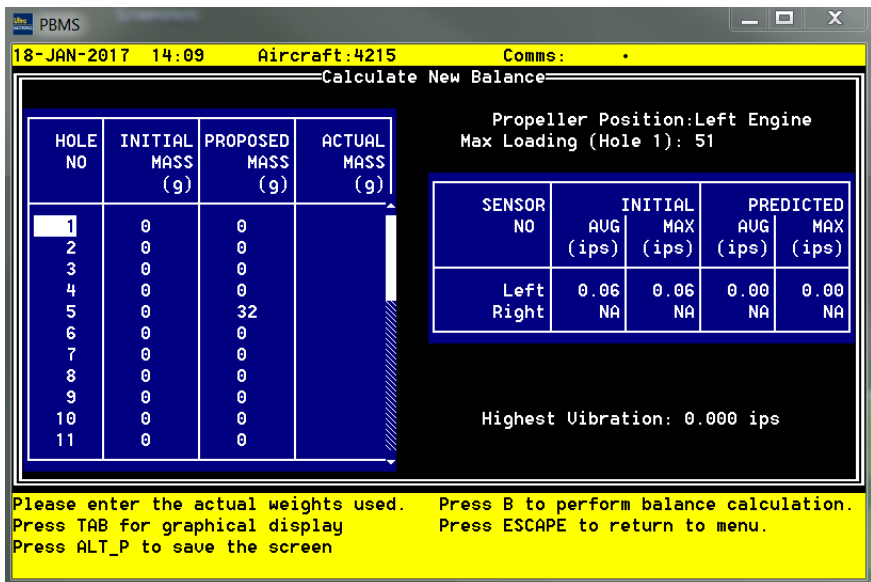
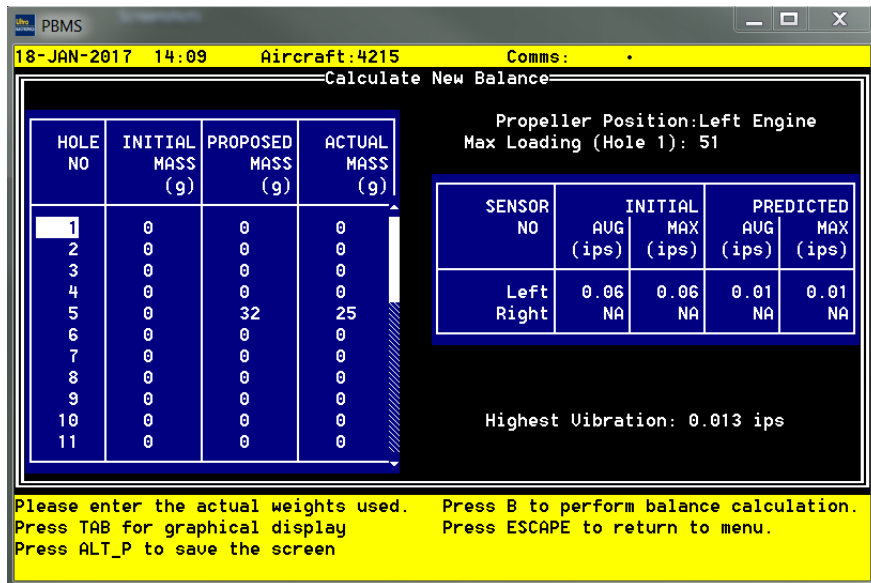

Figure 3-5 Calculate New Balance (2) Screen
Figure 3-6 Calculate New Balance (3) Screen
- (9) With the current balance weight data entered and the required flight conditions selected, press to perform the balance calculation. The PBMS Terminal will display the masses required at each Hole No. to reduce the vibration levels. The PBMS Terminal will also show a prediction of the vibration levels that would be achieved with the proposed mass installations. (Refer to Figure 3-5)
- (10) If the proposed mass cannot be achieved on a certain hole then complete the 'actual mass' column with the new actual masses installed at each hole.
- (11) Press to repeat the balance calculations.
- (12) The PBMS Terminal will now show a prediction of the vibration levels that would be achieved with the new actual mass installations (Refer to Figure 3-6).